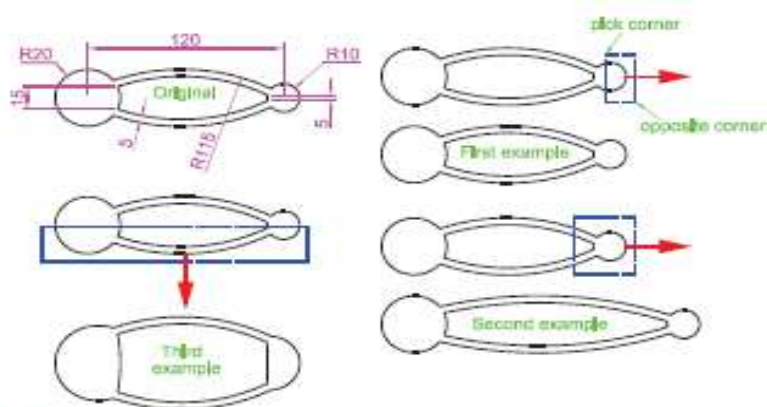

Fig. 5.34 Examples – Stretch
Examples – **Stretch** (Fig. 5.34)
1. Construct the drawing labelled **Original** in Fig. 5.34 , but do not include the dimensions. Use the **Circle** ,**Arc** , **Trim** and **Polyline Edit** tools.
In each of the three examples in Fig. 5.34 , the broken lines represent the crossing windows required when **Stretch** is used.